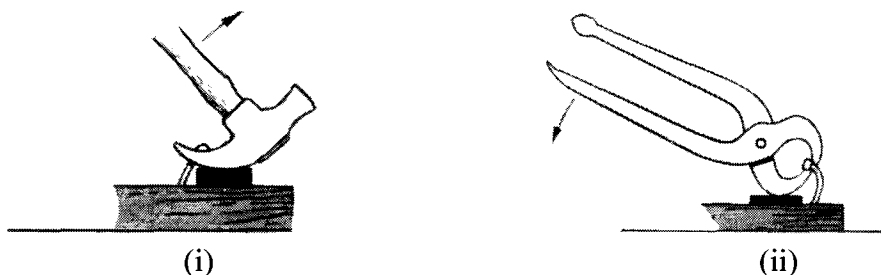

Figure 1
1. Nails can become bent when driving them into material. Figure 1 shows two tools that can be used for extracting bent nails.